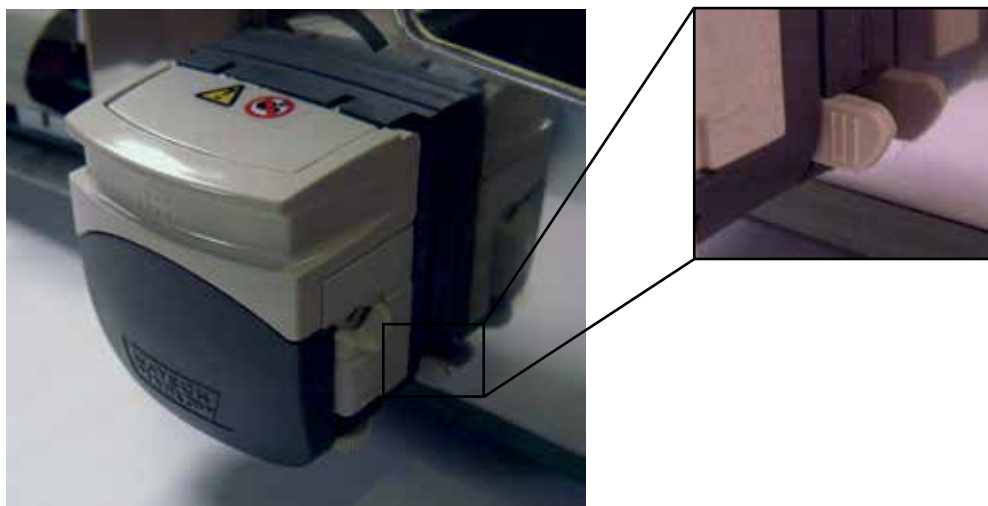

Figure 12
2. Remove the pump: press the tab (see Figure 12) and at the same time turn it in the direction of the arrow. Release the pump.